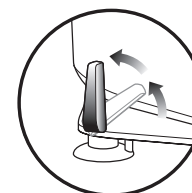

Fig. 12b
- 7 To remove the motor base from the counter or table top, pull the suction lever up to release the suction feet. (Fig. 12b)